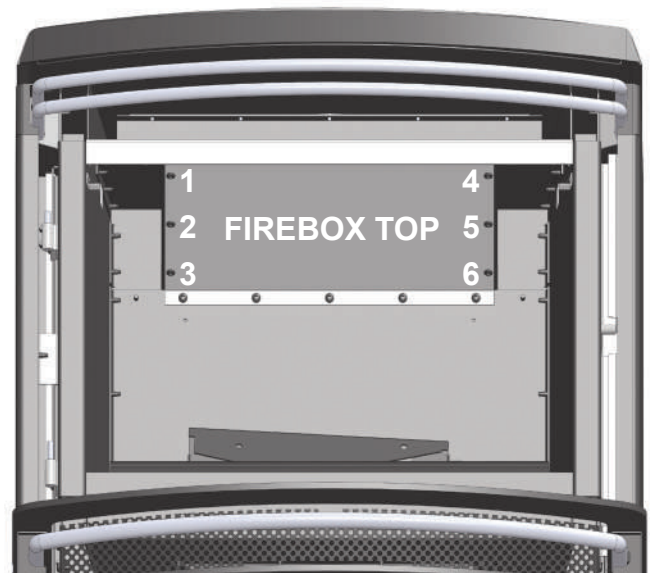

Fig. 5
4. Remove six screws from the "FIREBOX TOP". (Fig. 5)